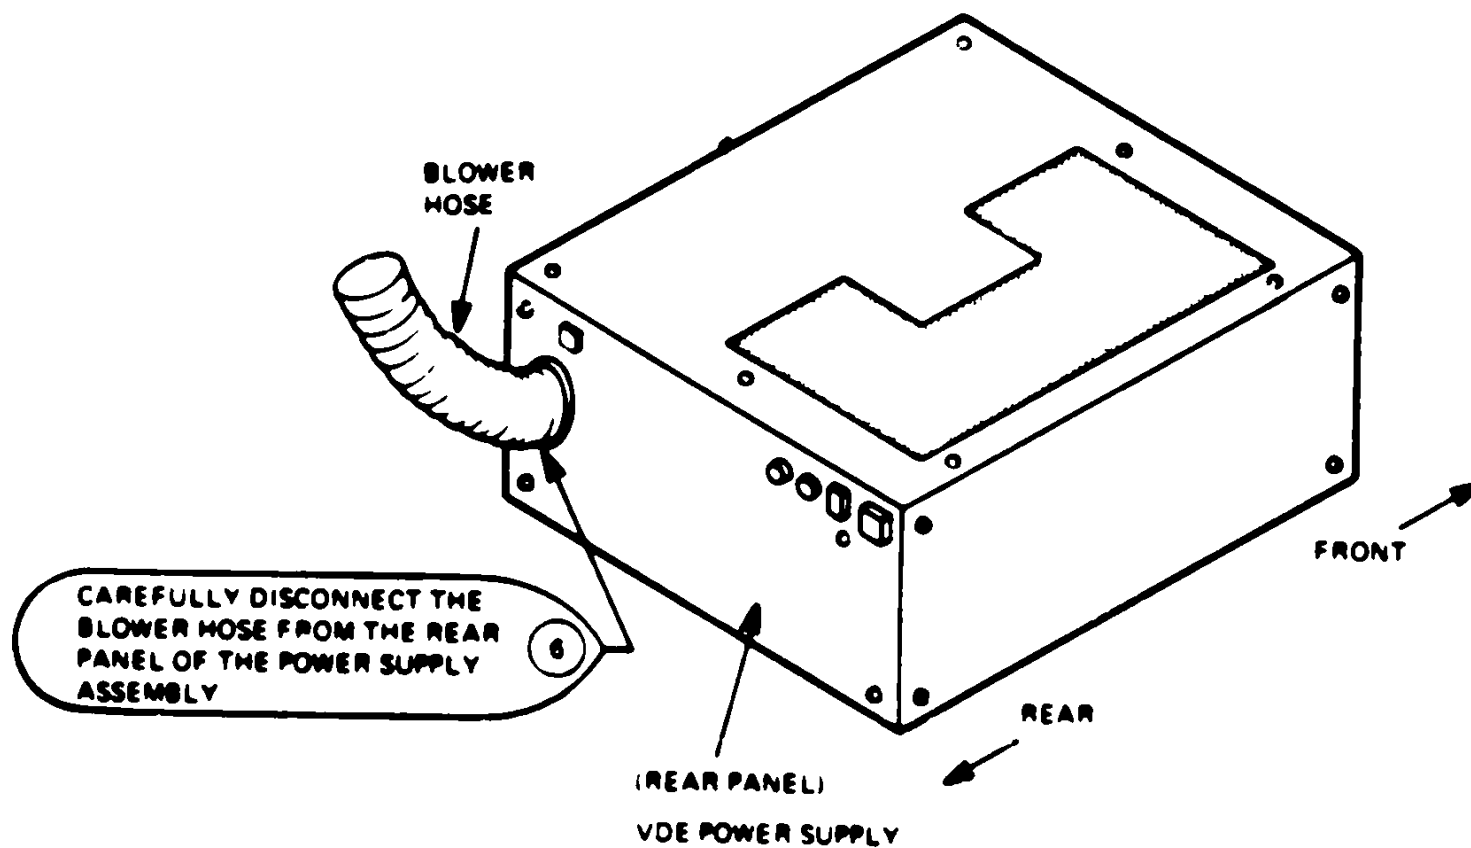

FIGURE 6 RM05 VDE POWER SUPPLY (REAR VIEW)
6. Carefully disconnect the blower hose from the rear of panel of the power supply assembly. (See Figure 6)